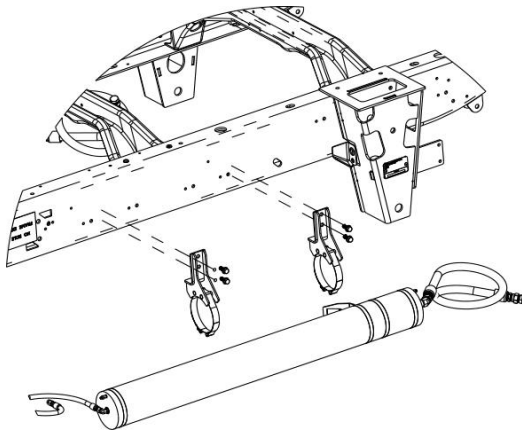

Figure 22. Left Hand Volume installation.
7. Raise the volume assembly until the volume contacts both mounts. Rotate the volume assembly until the bleed screws are located to the top and as vertical as possible. The Rate Valve and Guard should be perpendicular to the side of the frame, pointing inboard, under the frame rail. See Figure 22.
8. Locate (2) T-Bolt Clamps, open the mounts, and place them in the mounts, on top of the two pegs.